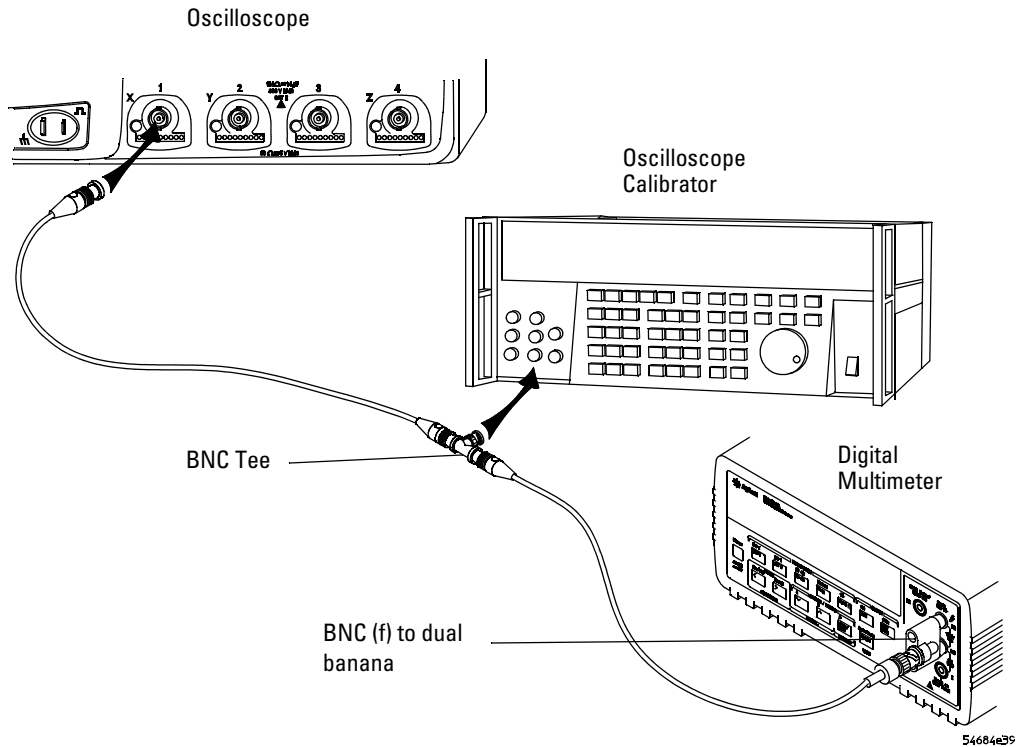

Figure 3 Connect equipment
- 3 Use the BNC tee and cables to connect the oscilloscope calibrator /power supply to both the oscilloscope and the multimeter (see Figure 3).